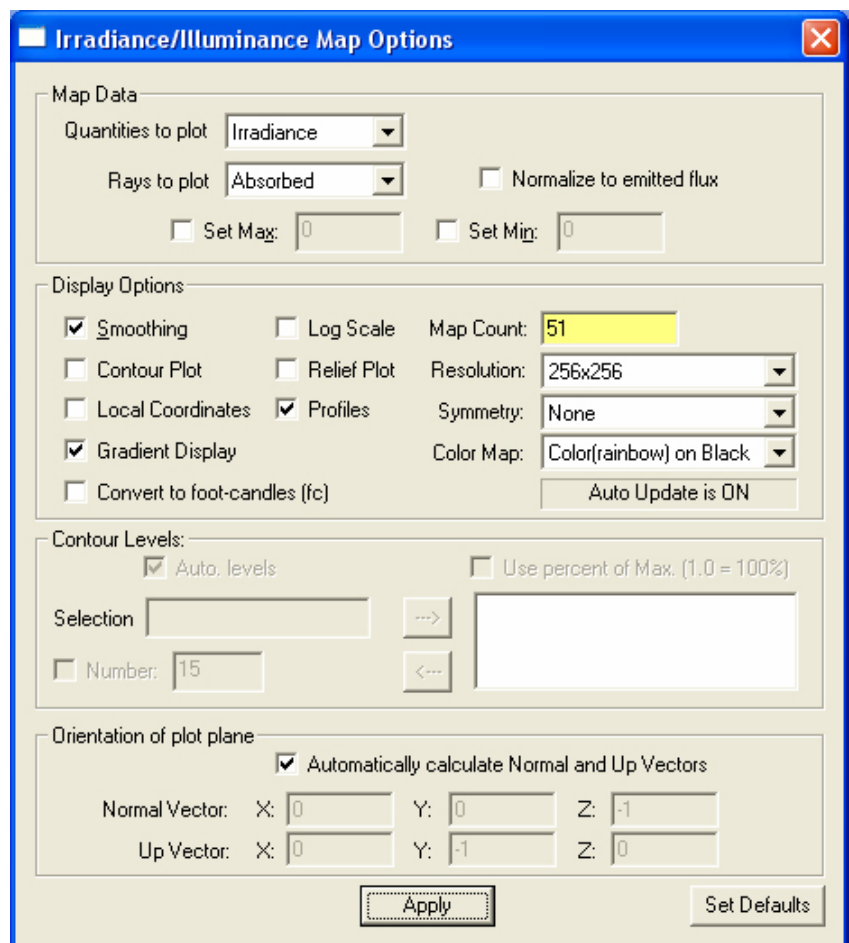

Figure 28. Irradiance/Illuminance Map Options dialog.
14. Set the values within this dialog as shown in Fig. 28,